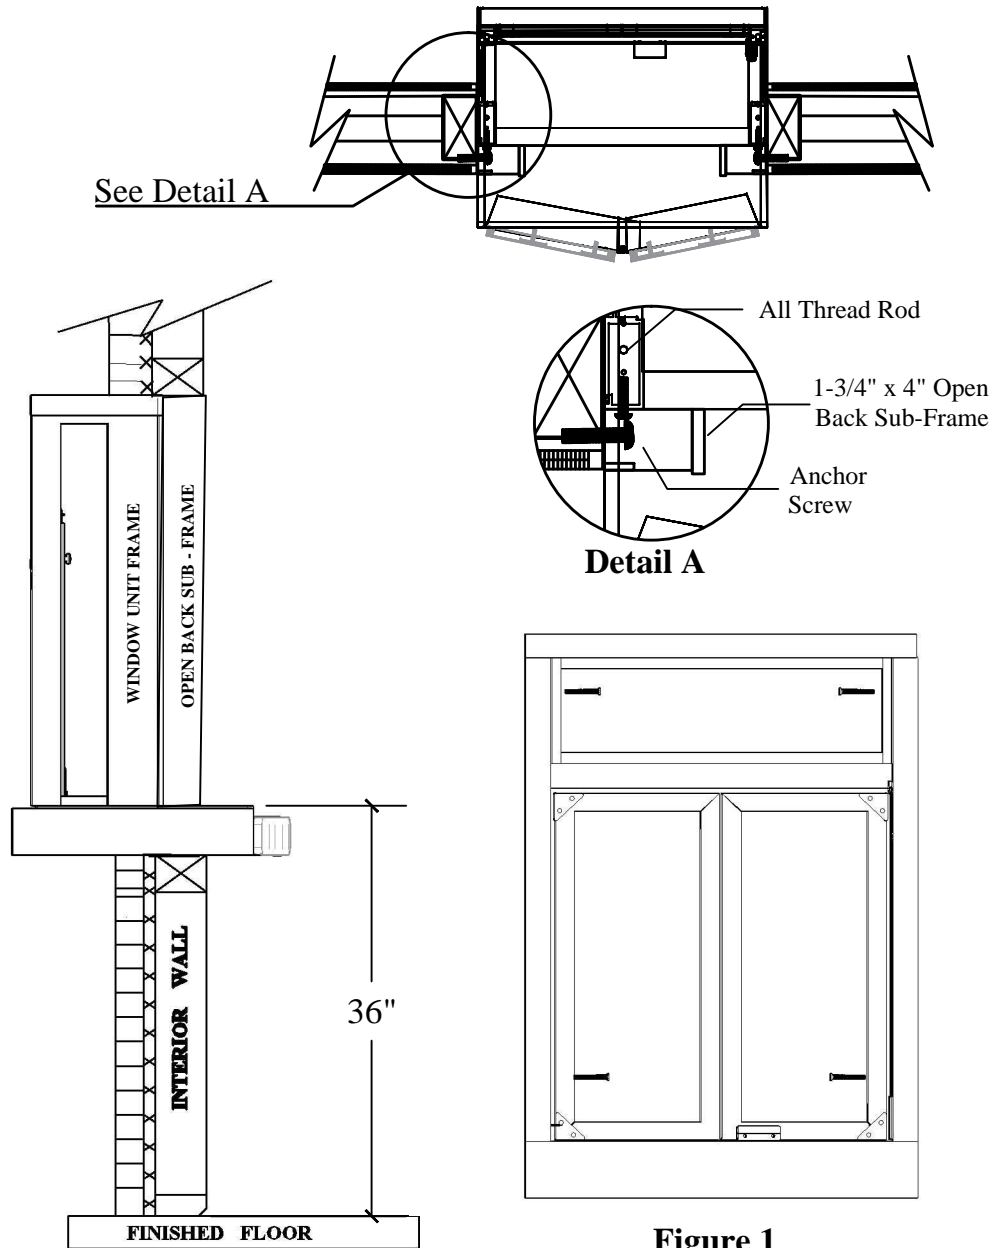

Figure 1
- 3) Anchor through each side at two places approx. 5" at top and bottom of each side jamb. (See Figure 1)